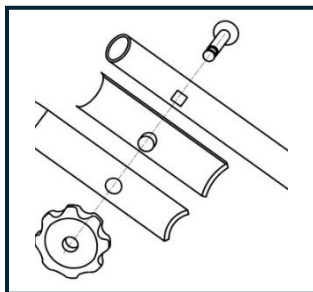

FIG 3A
1. Insert the bolts through the upper and lower handlebars and the insulating sleeve in sequence, as shown in Figure 3A.